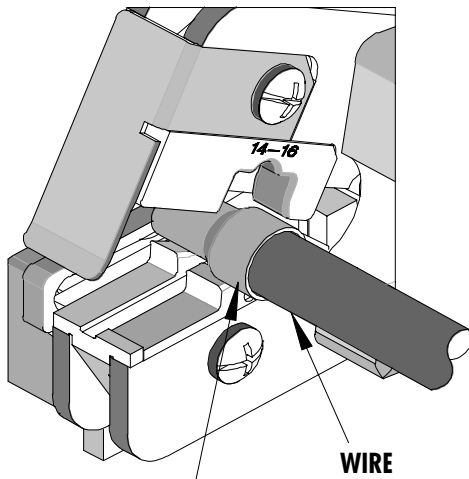

Figure 2
3. Push on wire to assure it is still fully seated in the terminal. (See Figure 2 and 3). Cycle the tool.